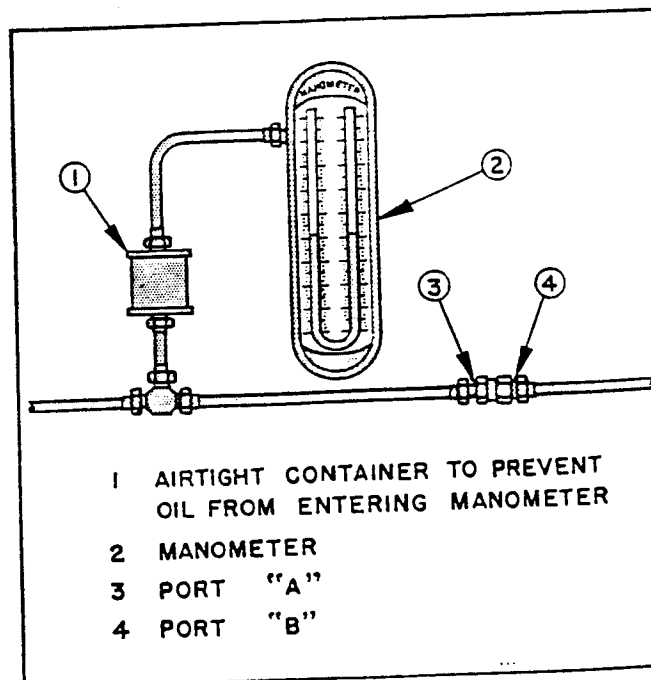

Figure 36. Test Set-Up for Parker Check Valve
a. Make test set-up as shown in figure 36.